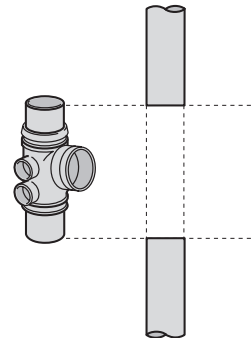

Fig.5a Cut out existing pipe
**Step 1** – Cut out section of existing pipe of sufficient length to allow insertion of new assembly plus 12mm, to allow for a 6mm expansion gap at both joints (Fig.5a)